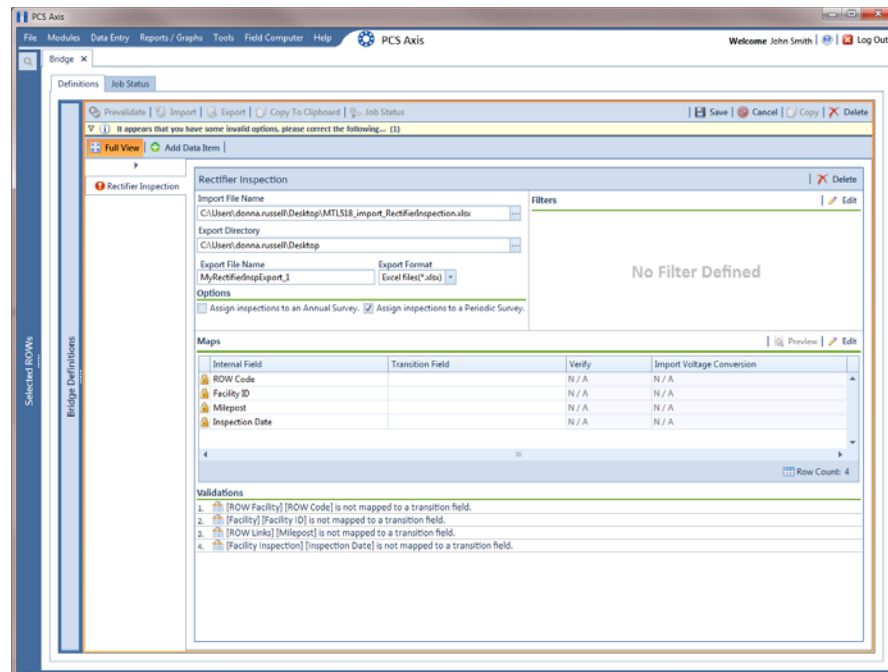

Figure 10-35. Bridge Import Export
- 14** Select a file format and a location to save the export file using the following steps (Figure 10-35, page 459):
- 15** If you want to assign inspections in the import file to a survey folder based on the inspection date, complete one or both of the following steps in the *Options* group box as required (Figure 10-35, page 459).